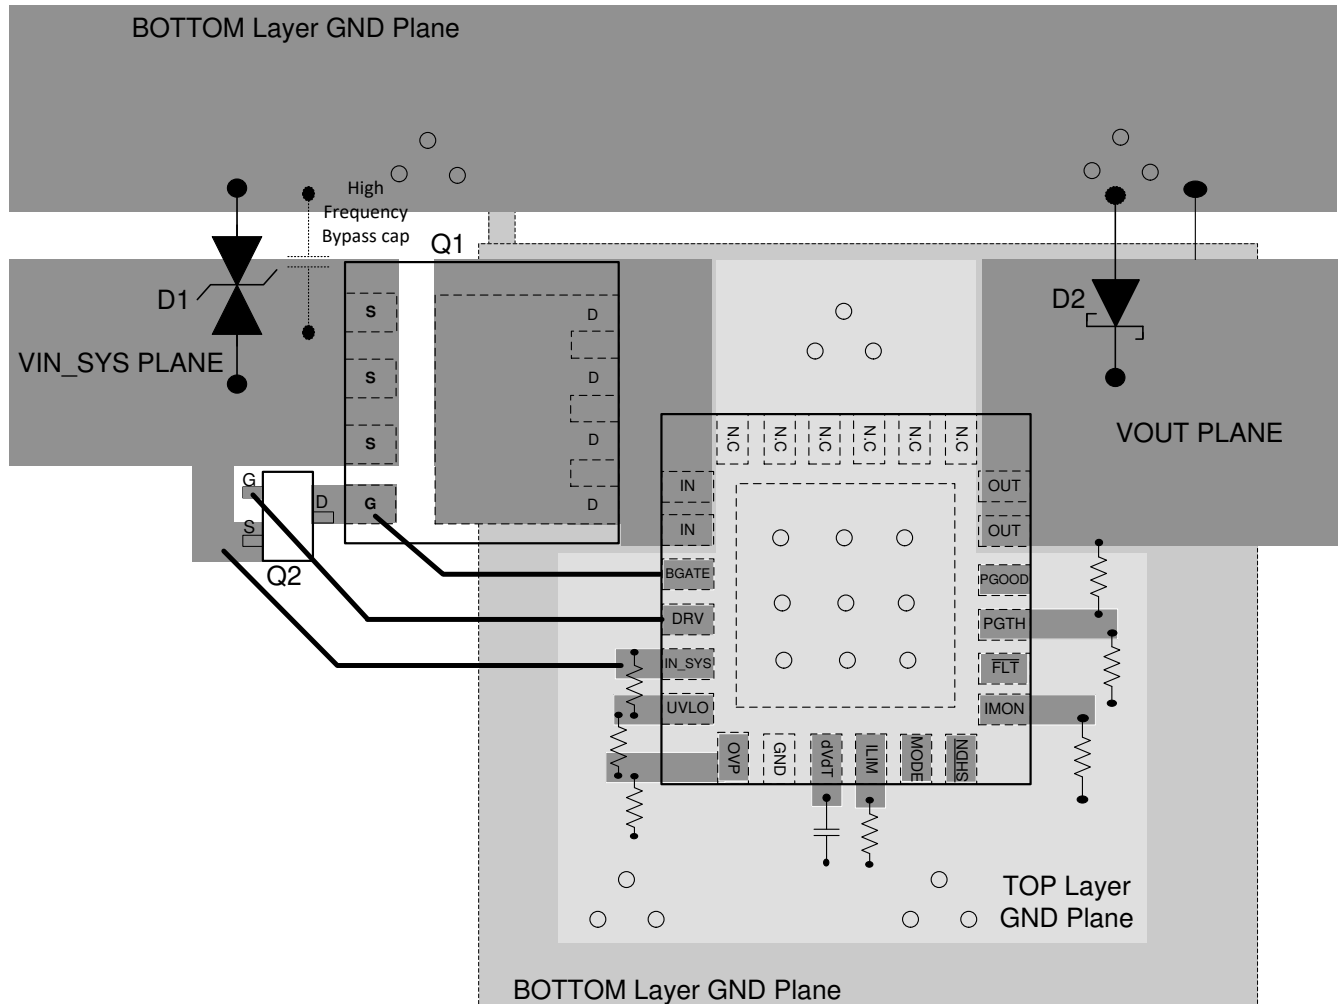
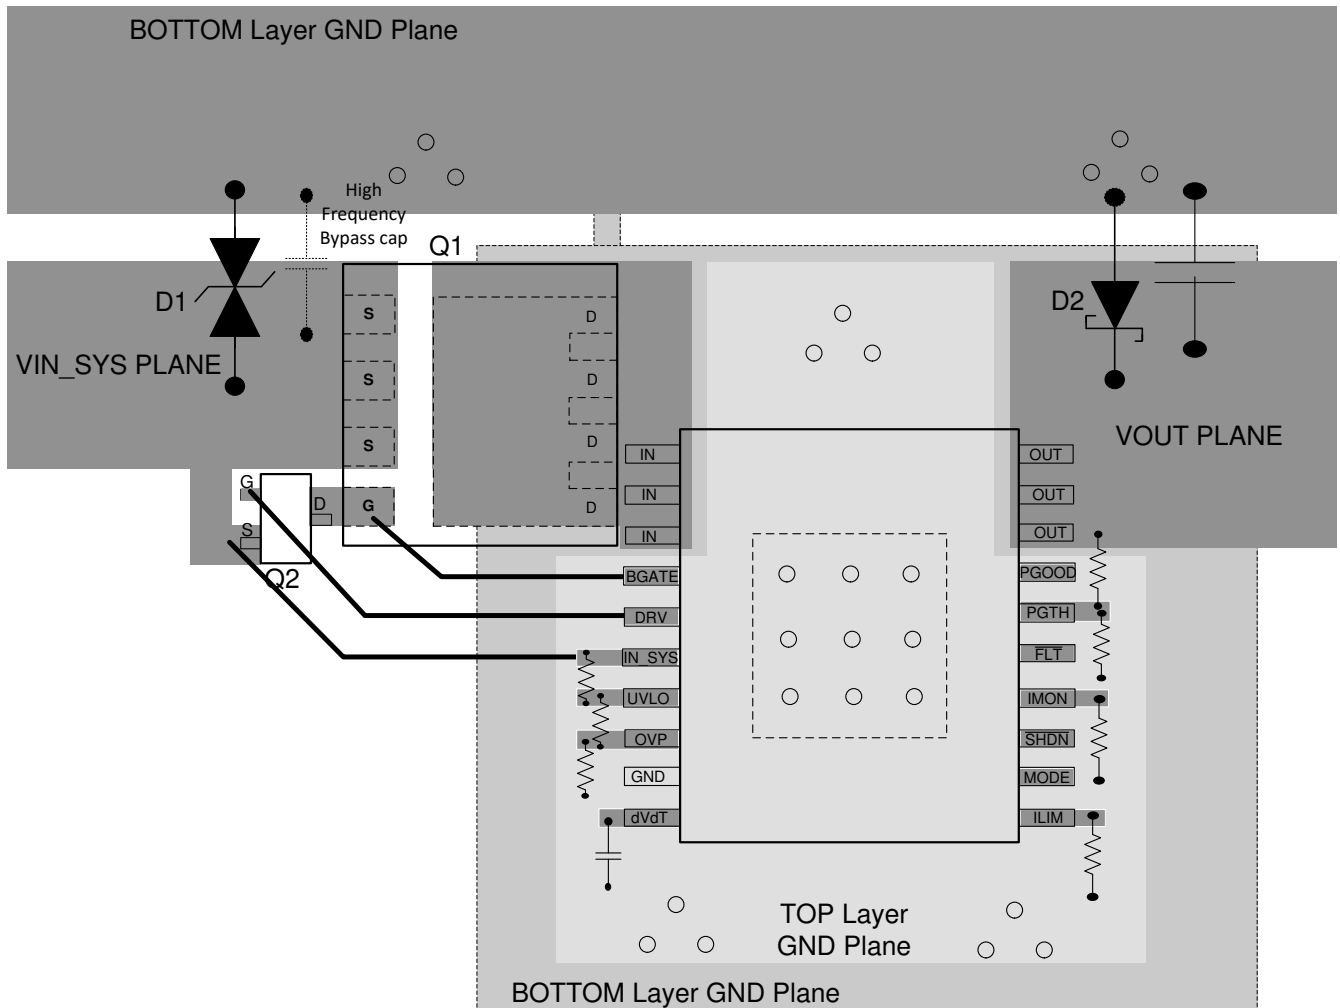

Figure 12-1. Typical PCB Layout Example With QFN Package With a 2 Layer PCB
Figure 12-2. Typical PCB Layout Example With HTSSOP Package With a 2 Layer PCB
- The external FET Q1 should be placed with DRAIN close to the  $V_{\text{IN}}$  pins of the IC and connected through a plane. The fast pull down switch Q2 DRAIN and SOURCE should be placed very close to the GATE and SOURCE terminals of Q1 with very short loop. See Figure 12-1 and Figure 12-2 for a typical PCB layout example.